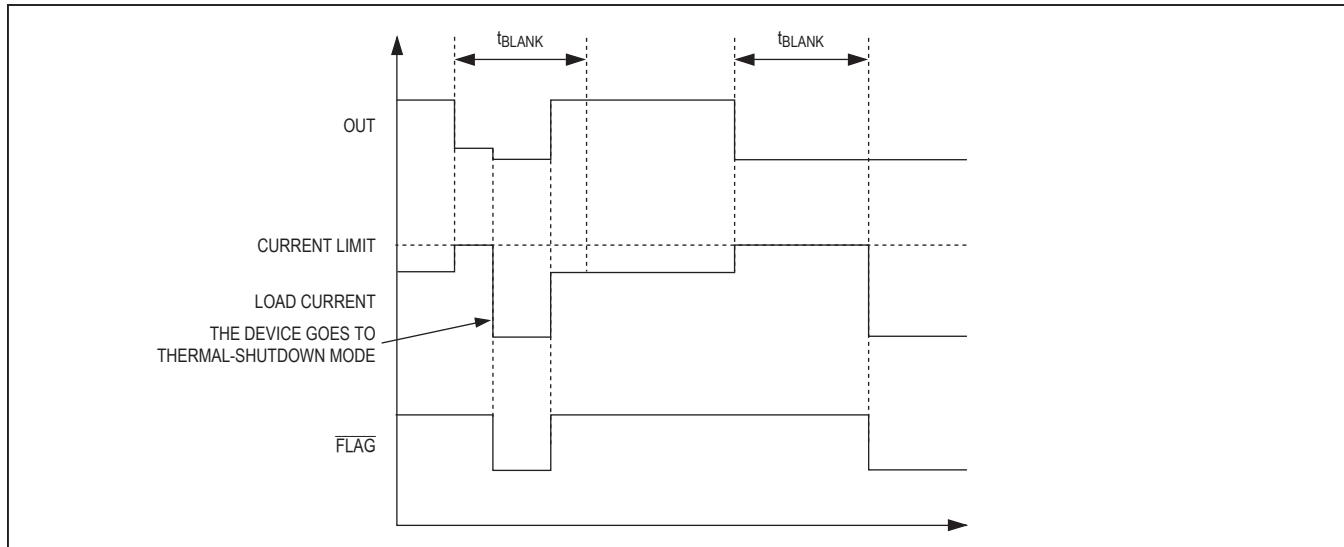

Figure 3. Latchoff Fault Diagram
When the forward current reaches the current-limit threshold, the  $t_{BLANK}$  timer begins counting (Figure 3). FLAG asserts if an overcurrent-limit condition is present for greater than  $t_{BLANK}$  time. The timer resets if the overcurrent condition disappears before  $t_{BLANK}$  has elapsed. The switch turns off if the overcurrent condition continues beyond the blanking time. Reset the switch by either toggling the control logic (ON) or cycling the input voltage. If the thermal power rating of the package is exceeded during  $t_{BLANK}$ , the MAX4995B goes into thermal shutdown.